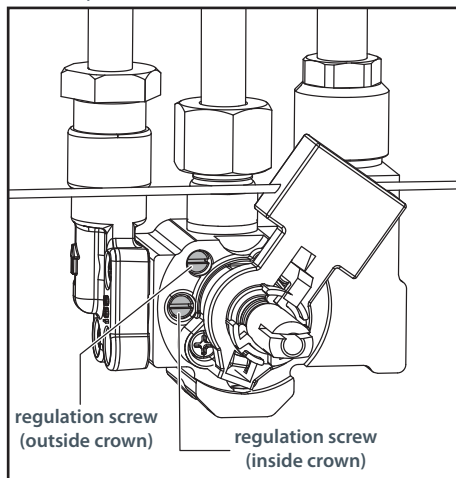

Fig. 13 Adjusting the minimum burner setting: dual burner
- 4 Using a small flat screwdriver, turn the screw (see Fig. 13) to the correct regulation.